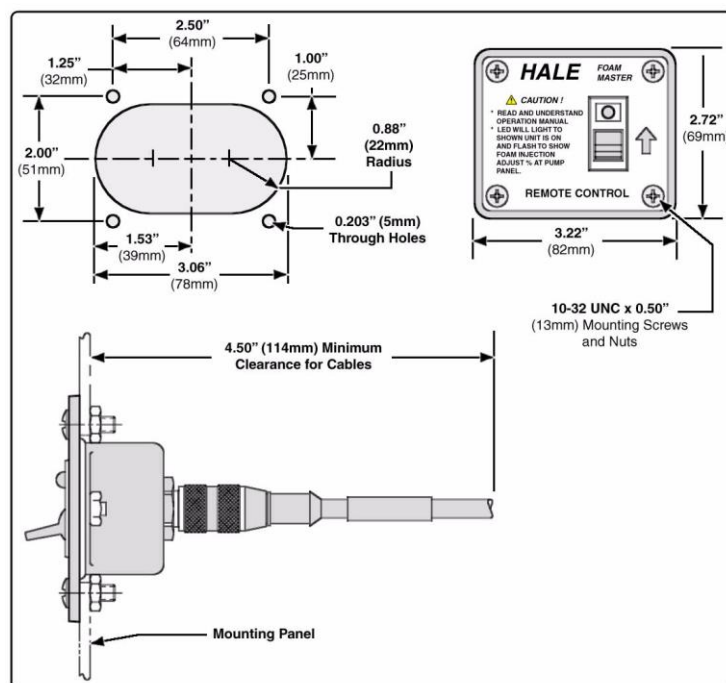

Figure 43: Remote Activation Switch Installation Dimensions
1. Cutout the panel and drill the four 0.203 inch (5mm) diameter through holes (see Figure 43: **Remote Activation Switch Installation Dimensions**).